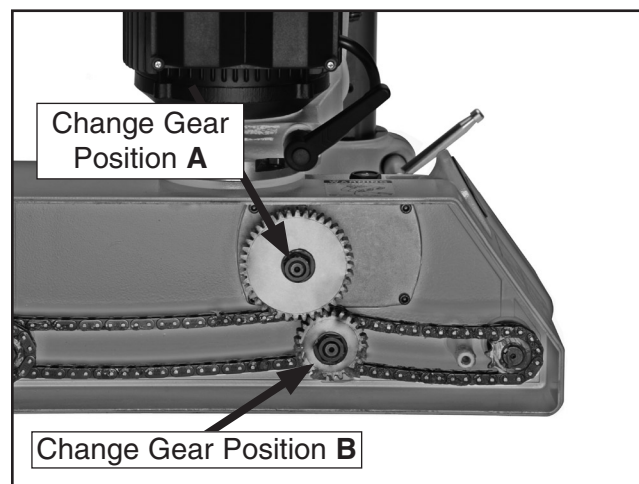

Figure 14. Change gear locations.
4. Remove the chain cover and the two hex nuts securing the **A** & **B** change gears to the shafts shown in **Figure 14**.
5. Swap the required change gears so the gear hubs are facing in toward the power feeder (shown in positions **A** & **B** in **Figure 14**).